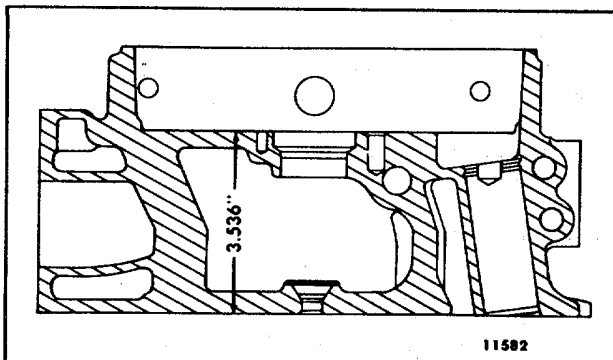

FIG. 13 - Minimum Distance Between Top and Bottom Faces of Cylinder Head
- c. If the cylinder head is to be refaced, remove the injector tubes prior to machining. Do not remove more metal from the fire deck of any cylinder head below the minimum distance of 3.536" (Fig. 13).